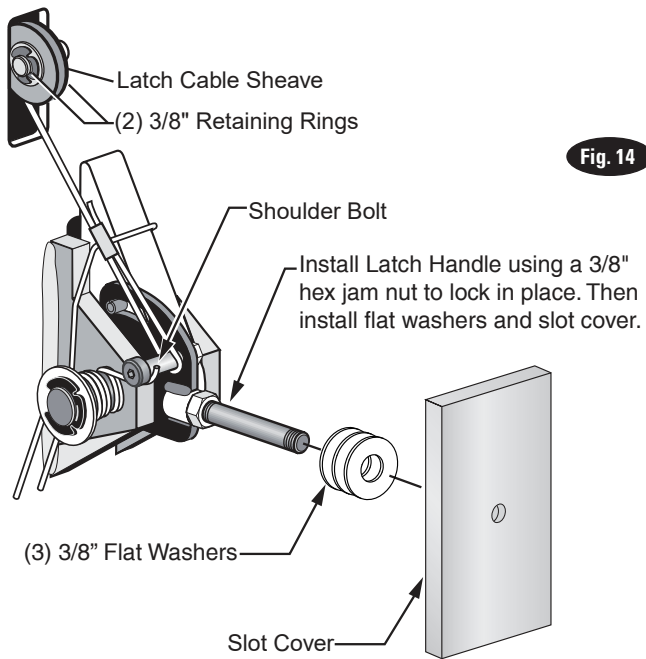
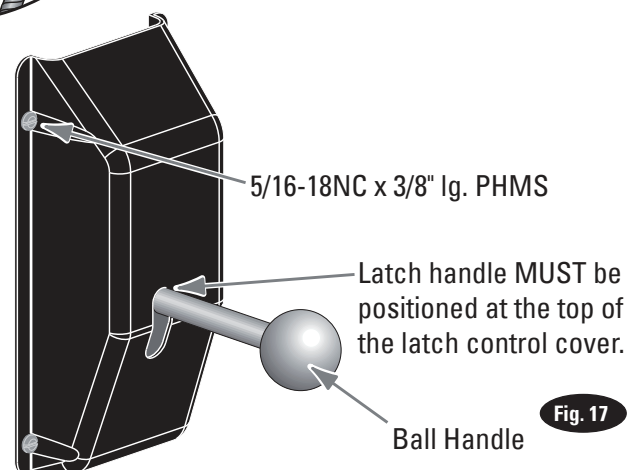

Fig. 14
Fig. 17
- A) Install latch cable sheave and retaining rings in upper slot of power unit column as shown, Fig. 14.
- B) Slip loop end of cable over end of shoulder screw on right side latch control plate, Fig. 14.
- I) At this point you **MUST** install the latch handle, jam nut, and right column latch cover Fig. 14 & Fig. 17. Install latch handle ball, Fig. 17.